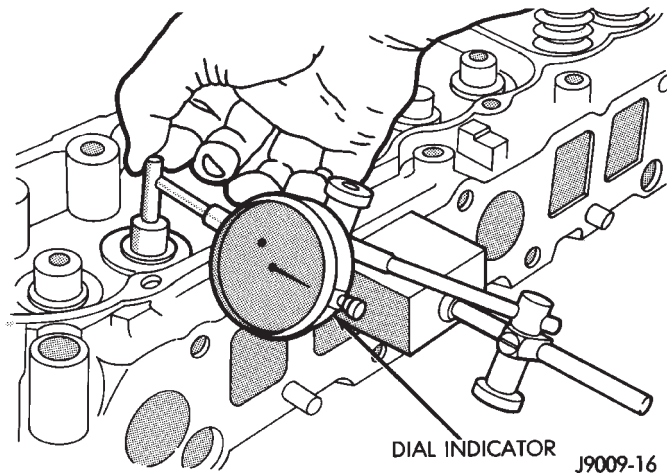

Fig. 70 Measurement of Lateral Movement Of Valve Stem
(1) Use a dial indicator to measure the lateral movement of the valve stem (stem-to-guide clearance). This must be done with the valve installed in its guide and just off the valve seat (Fig. 70).
(2) Correct clearance is 0.025-0.0762 mm (0.001-0.003 inch). If indicated movement exceeds the specification ream the valve guide to accommodate an oversize valve stem.